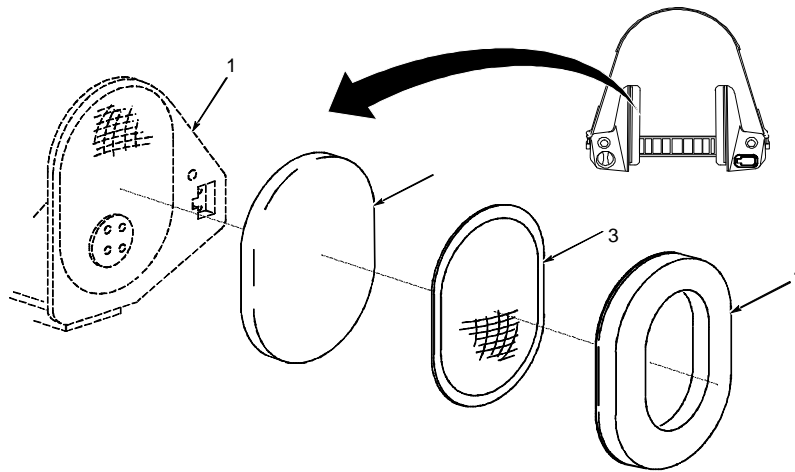

Figure 3-19. Earcushion, Damp Cover and Foam Damper
3.9.1. Earcushion, Damp Cover, and Foam Damper Removal and Replacement (Fig. 3-19)